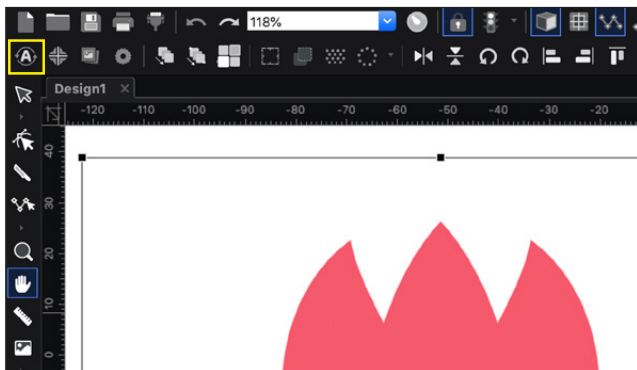

Figure 34
1. First, click on the image and then click on the Auto Digitizing wizard. **See Figure 34.**